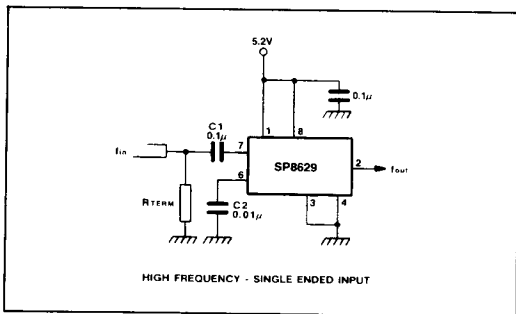

Fig.6 High frequency, single-ended input
2. The signal source is usually capacitively coupled to the input as shown in Fig. 6. In the single-ended mode a capacitor of 0.01 μF (C2) should be connected between the unused input and the ground plane to provide a good high frequency bypass. The capacitor should be increased at lower frequencies. If the input is likely to be interrupted, it may be desirable to connect a 100k resistor between an input and ground.